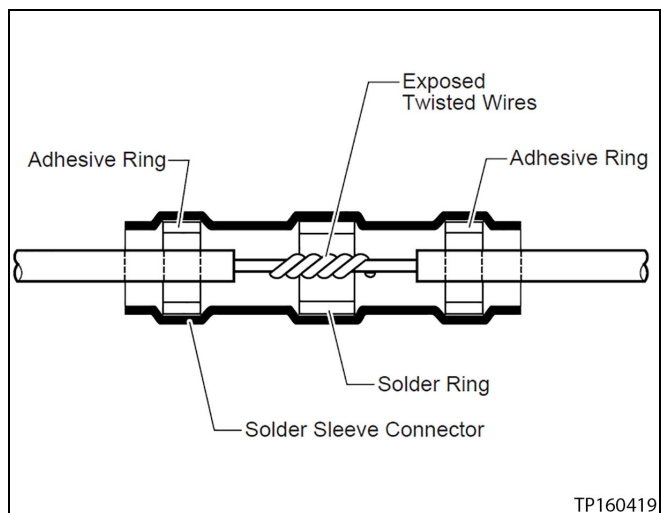

Figure 17
16. Position the solder ring in relation to the twisted wiring as shown in Figure 17.